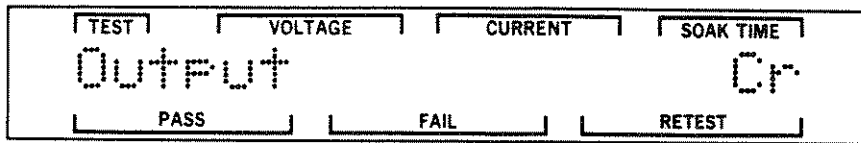

Figure 7-48. Output Screen
STEP 16. Press the DOWN pushbutton once to display the Output screen. Figure 7-48 is an example of this screen.